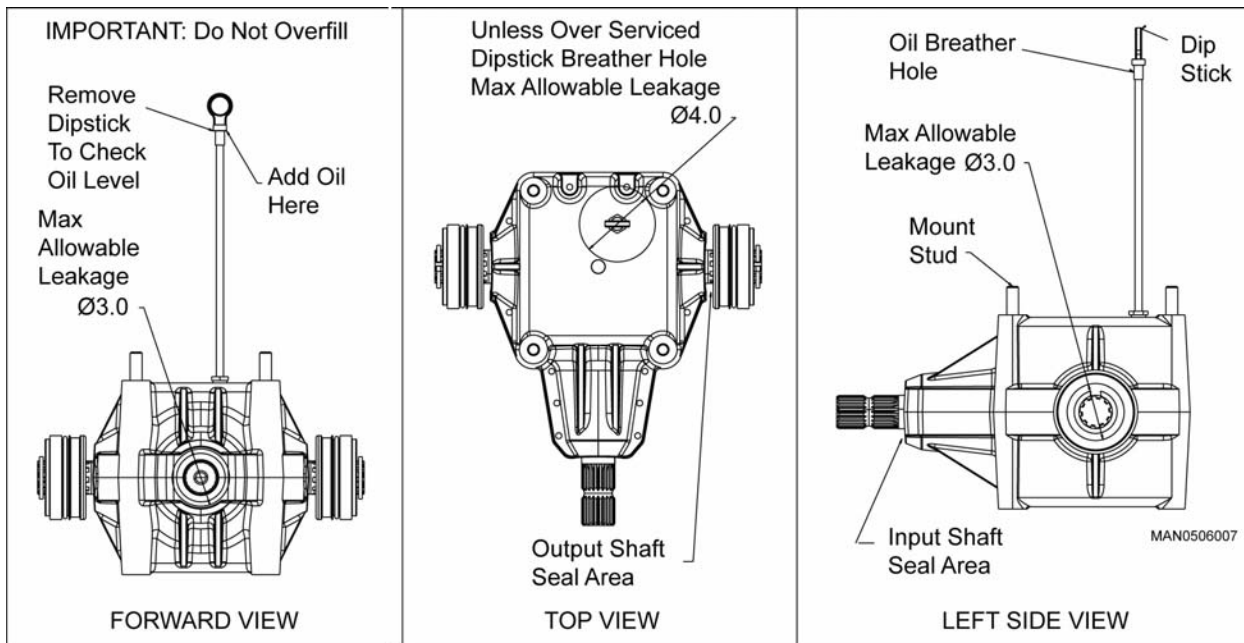

Figure 30. Acceptable Oil Leakage
1. Oil covers less than a 3-inch diameter circle around the shaft seal area (see Figure 30).
2. Oil covers less than a 4-inch diameter circle around the dipstick tube (see Figure 30).